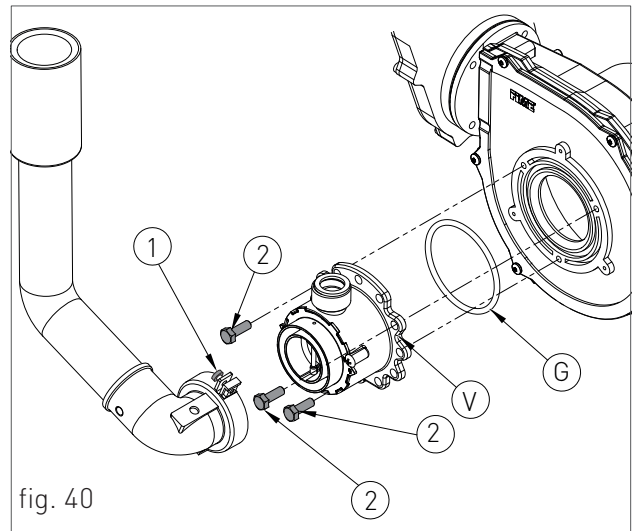
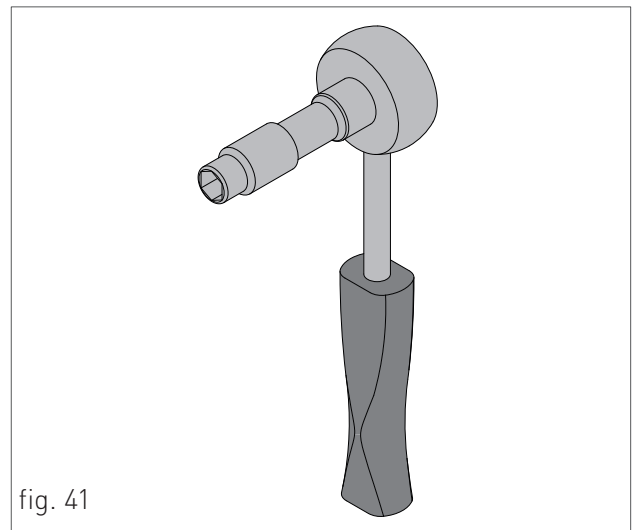

fig. 40
fig. 41
- > loosen the two screws '1' (fig.40) from the fastening bush, and remove the air suction tube;
- > unscrew the three fastening screws '2' (fig.40) of the venturi 'V' (fig.40) using a 10 key, as shown in figure 41;
- > remount the components following the demounting operations in reverse making sure that gasket 'G' is re-assembled as shown in fig.40;